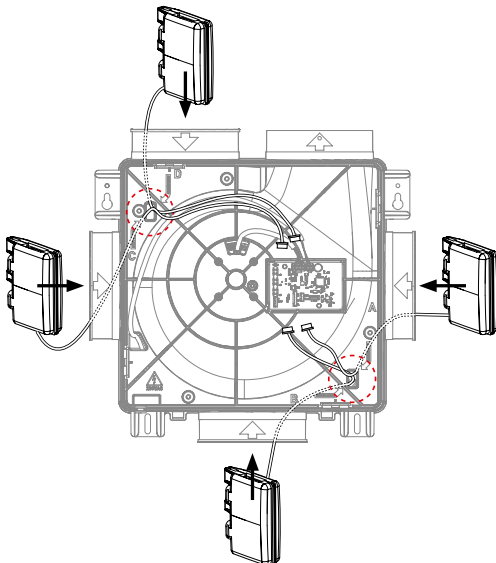

Figure 15: Four options for cabling up to one CO₂ Box sensor to circuit board
7. Mount the lid correctly on the unit. Make sure the notch in the lid is over the power cable opening (Figure 15: Note the notch in the lid). Screw the lid back on and close with the cover plate.